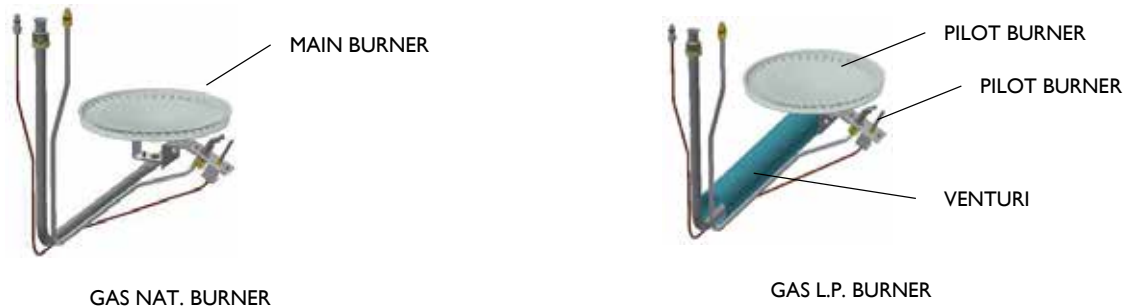

Figure 13
4. Remove No.8-32 screw holding pilot assembly to main burner (Figure 13).
5. Re-install replacement pilot assembly to main burner making sure that it is in the right location (Figure 13).